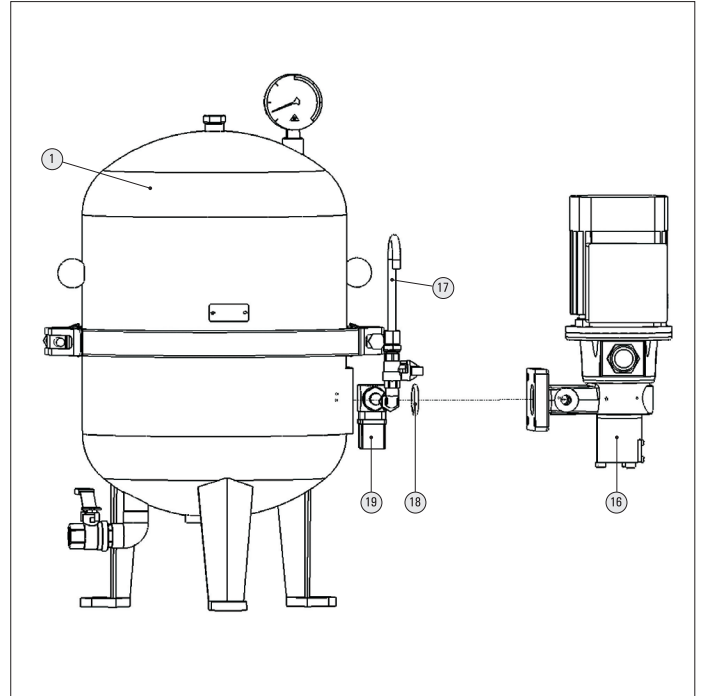

Fig. 6. Filter details HPS 27/27, 54.
See Fig. 6. For ordering, see chapter 7 Spare parts list.
See Fig. 6.
1. Clean the threads of the sampling valve (17) and pressure switch (19). Apply new sealing fluid. Mount the sampling valve and the pressure switch on the new pump housing. Adjust them in the direction shown in Fig. 6.
2. Mount a new O-ring (18) between the pump flange and the filter base flange. Fit the pump/motor unit. Mount and tighten the nuts and washers. Reconnect the power supply cables to the terminal box of the motor as noted earlier. Tighten the cable bushing properly.